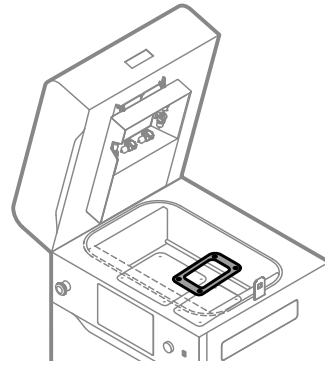

Fig. 13.31 Remove the Print Bed cover.
16. Remove the Print Bed cover. You can use the metal spatula (from Dedicated Powder Tools) to pry up and remove the cover (fig. 13.31).